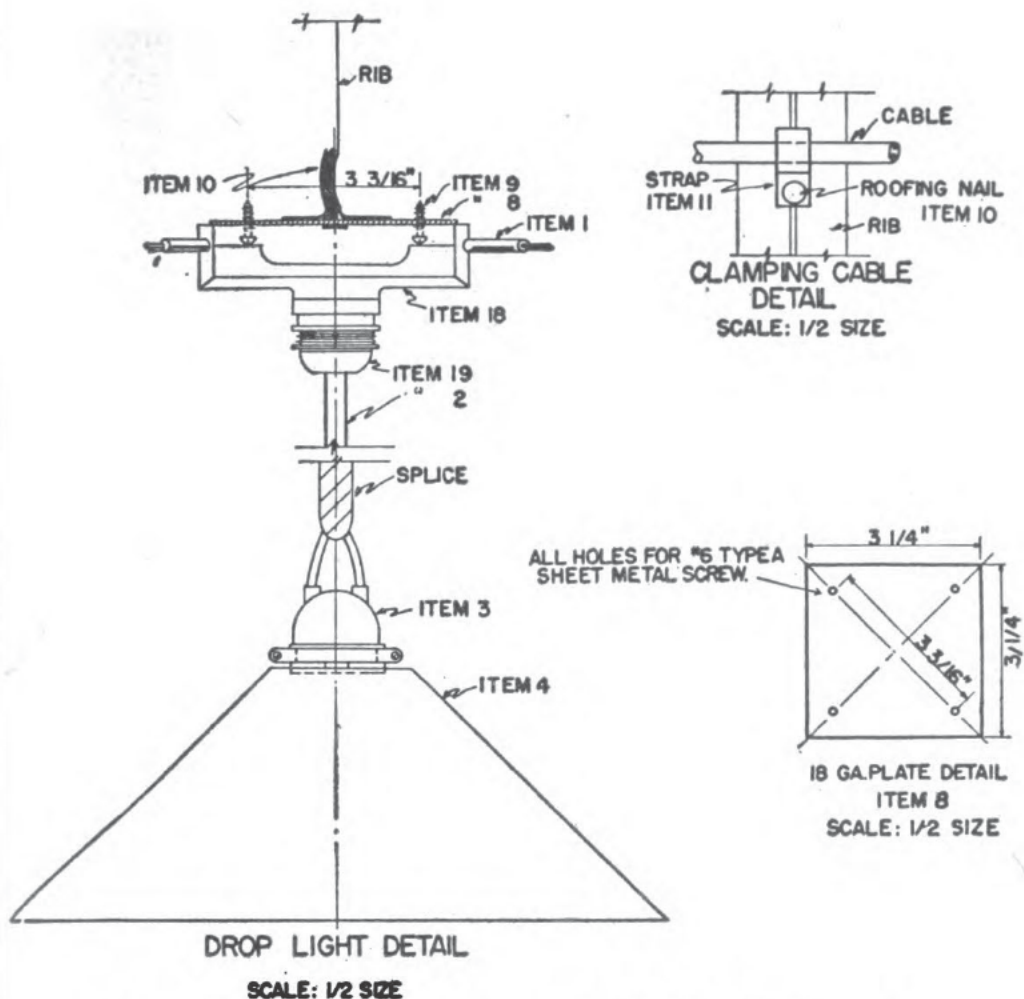

Figure 3-23.—Details from the standard lighting circuit drawing.
Figure 3-21 shows the standard lighting circuit drawing (Y. & D. drawing 303,665). You may not be able to get much help from this small illustration. So let's enlarge it and examine it section by section. You need to be familiar with figure 3-21 in order to install the lights in the machine shop. You already know the location of the lights from the machine shop drawing. Figure 3-23 is a picture of the details. That sheet-metal plate (item 8) is nailed to the expandable groove in the center of the rib of the building, and the lamp socket (item 18) is mounted on the plate by means of sheet-metal screws. The droplight is then assembled, as shown in the droplight detail. Between droplights the No. 14 nonmetallic-sheathed cable is clamped to the ribs, as shown in the "clamping cable detail." Each of the item numbers given in the detail drawings, corresponds to an item number listed in the bill of material. The items in the bill of material are described fully. By referring to it you will avoid any confusion as to where to use similar items.